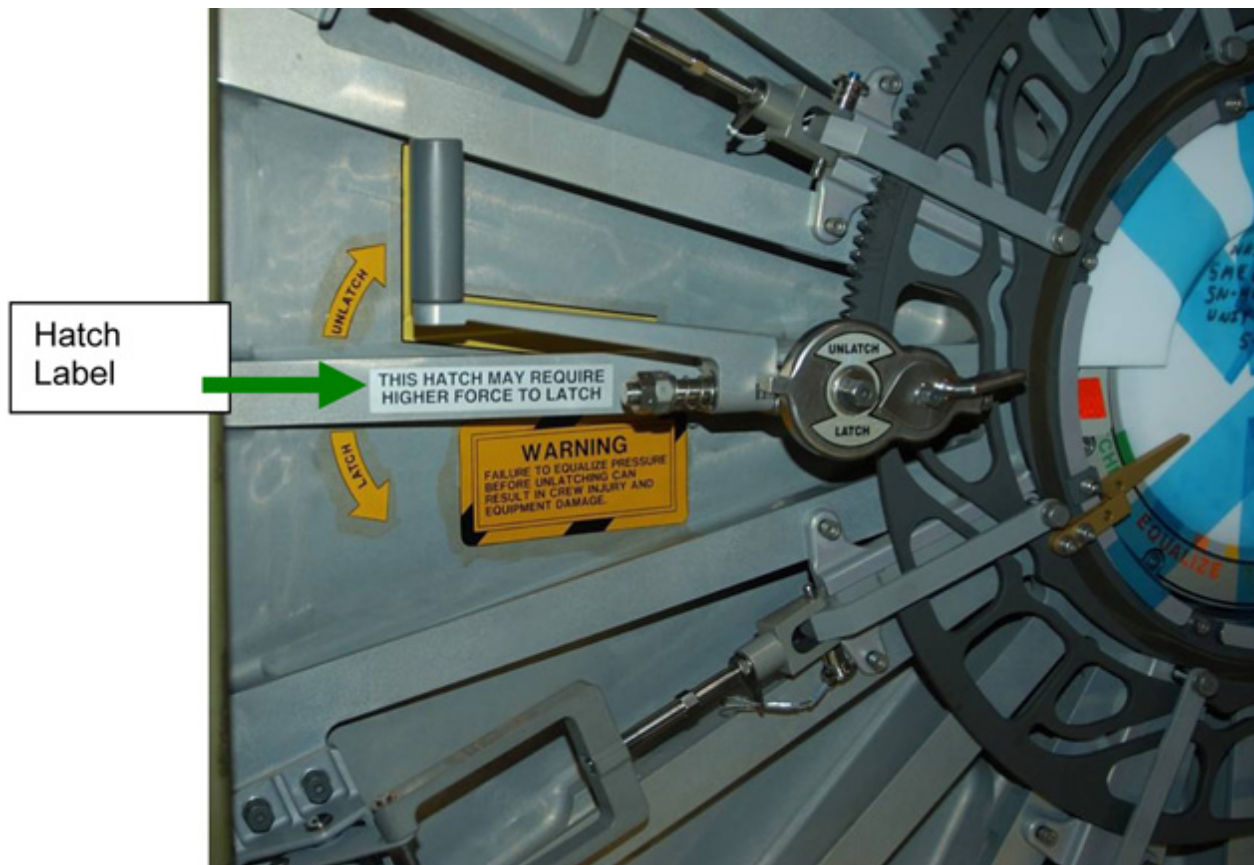

Figure 1. Installation location of hatch label.
- 9. Install crew preference hatch decal on Node 2 aft hatch Refer to Figure 1.